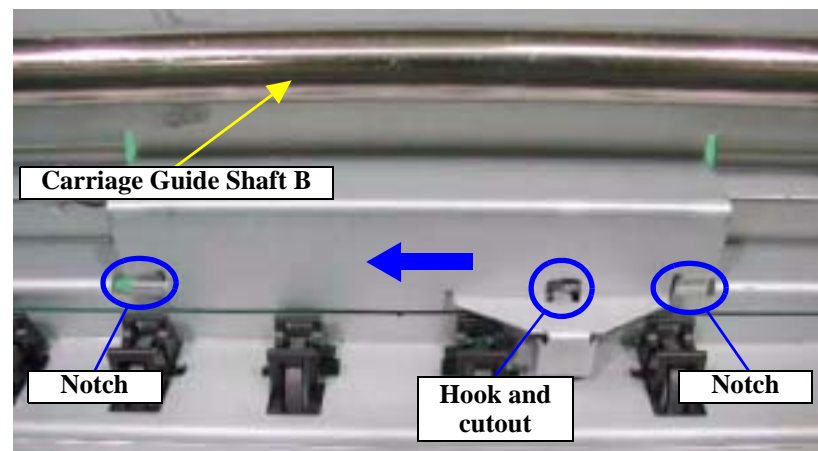

Figure 4-42. Removing the Upper Housing Mounting Plate
When removing the Upper Housing Mounting Plate, fully be careful not to scratch the Carriage Guide Shaft B. Refer to Figure 4-42, "Removing the Upper Housing Mounting Plate".
- Insert the cutouts in the left and right of the Upper Housing Mounting Plate into the notches of the Front Frame, and hitch the cutout of the Upper Housing Mounting Plate on the notch in the center of the Front Frame. Refer to Figure 4-42, "Removing the Upper Housing Mounting Plate".